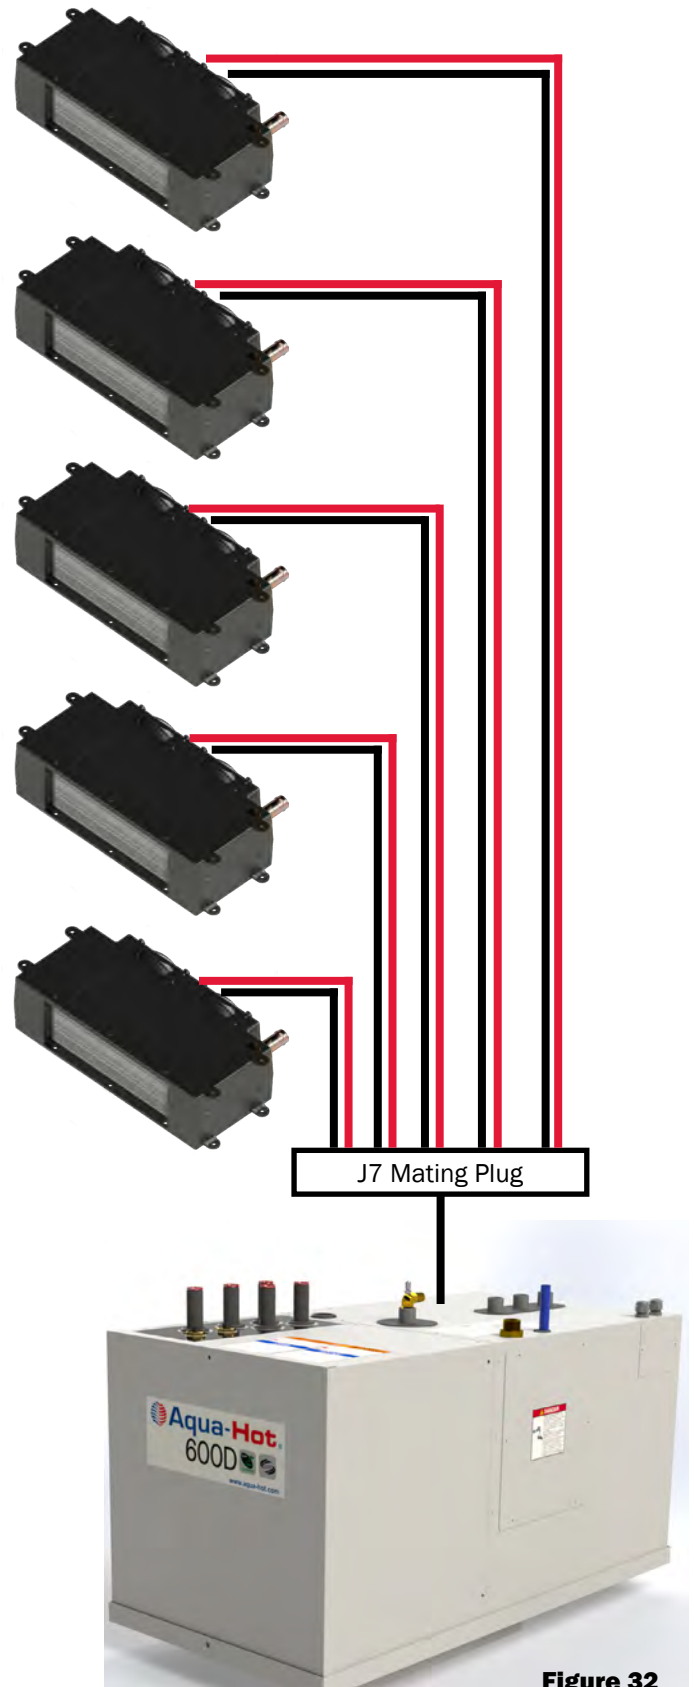

Figure 32
1. Wire each heat exchanger (in a heating zone) in parallel to one another as shown in Figure 32.